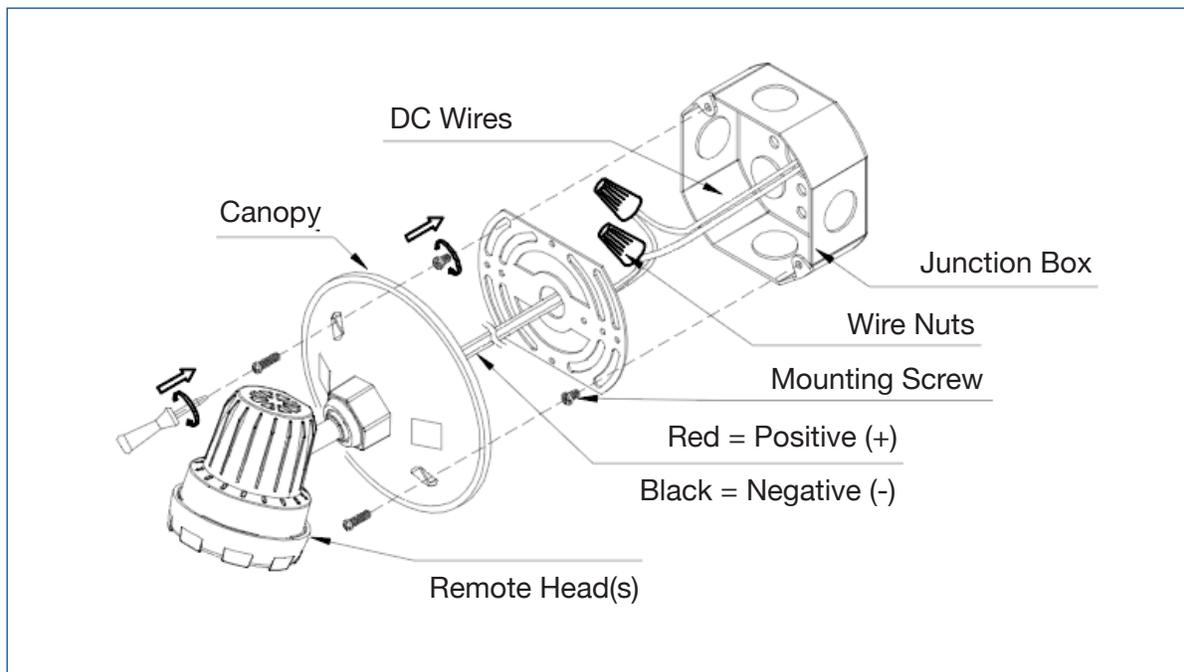

Fig. 1
- Ensure power is not live. Make wiring connections and observe polarity. Red (+), Black (-). Refer to Fig. 1.